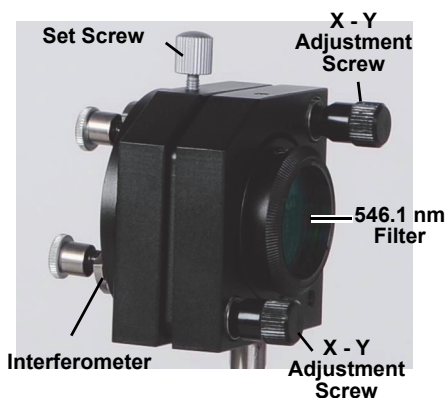

Figure 10: Interferometer/Filter Assembly
12. The glass envelope of the pen-type mercury lamp has wires up two sides. Looking through the lens, rotate the mercury lamp in its holder until the wires are out of the line of sight. NOTE: It helps to back-light the mercury lamp with a flashlight (see Figure 10).